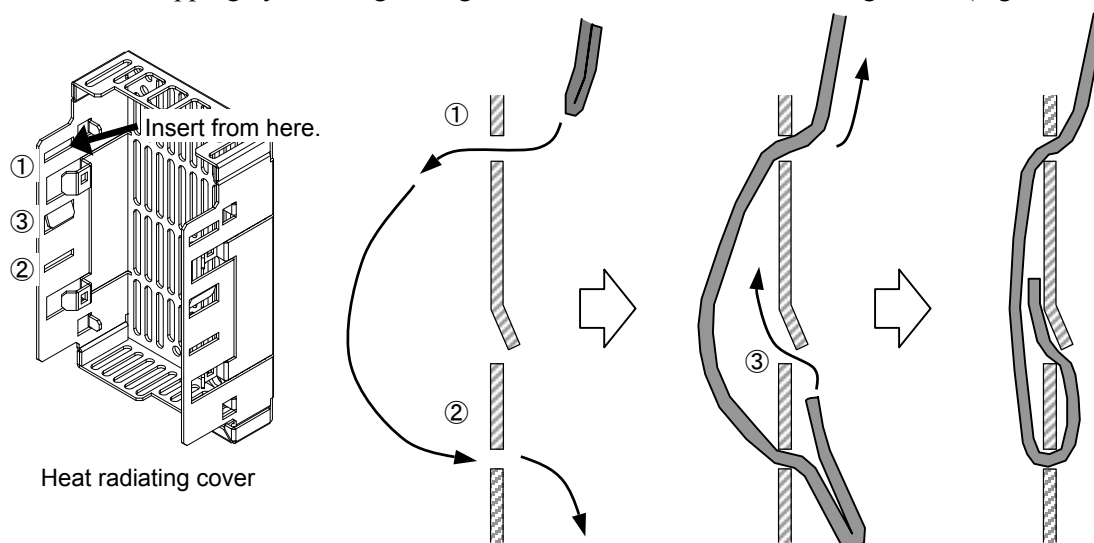

Fig.2-3-13 Mounting method of strapping
3. Secure the strapping by inserting an edge from inside of the Heat radiating cover. (Fig. 2-3-13)